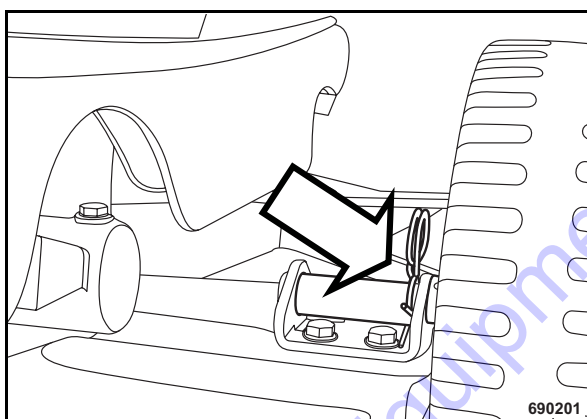

Fig. 33
- In the bracket secure the transport wheel with the spring cotter (Fig. 33).